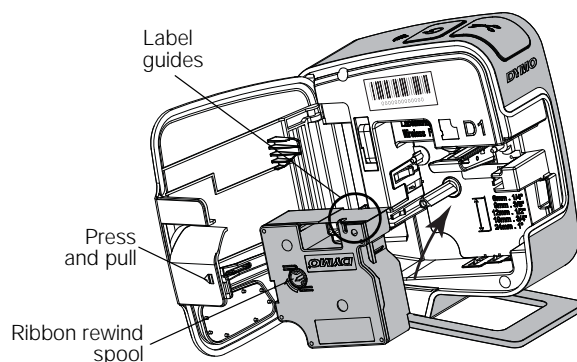

Figure 4
- 1 Press  and then pull outward to open the side cover of the label maker. See Figure 4.
- 2 Make sure the tape and ribbon are taut across the mouth of the cassette and that the tape passes between the label guides. See Figure 4.